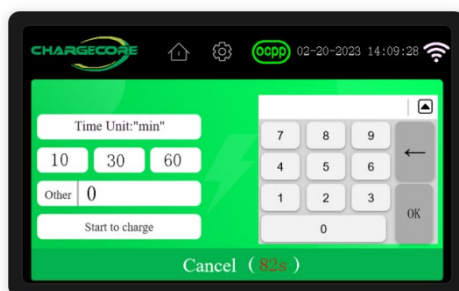

Figure 35 Time mode
- a. Enter the percentage of power required for this vehicle (%) / the required charging time for this time (min) / the required power for this charging (kwh) (as shown in Figure 35)